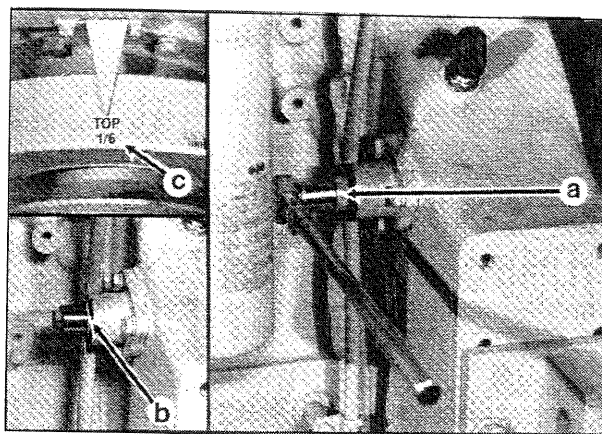

Figure 11
- b. The barring tool (Fig. 12-12, 11-A) is located on the injection pump side, flywheel end of the engine. A pin (Fig. 11-B) must be removed and the tool pushed in to engage.